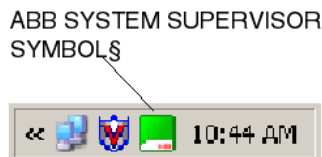

Figure 1. ABB System Supervisor Symbol
10. To verify the system is running, hover the cursor over the ABB System Supervisor symbol in the Windows Notification area shown in Figure 1. The pop-up message should indicate that the system is **Enabled**.